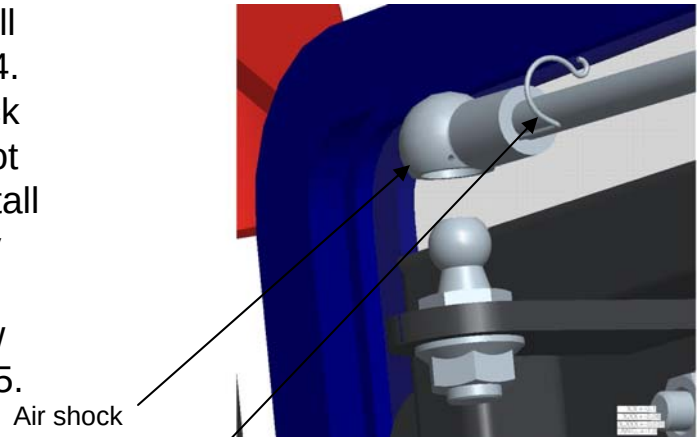
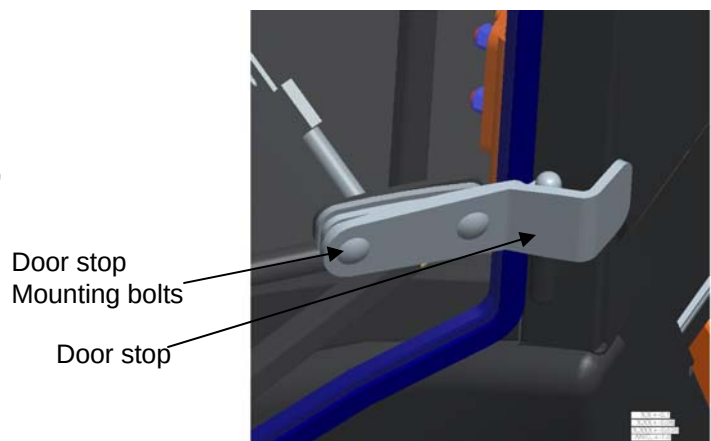

Figure 4.
Figure 5.
4. Install the door air shock onto ball stud in door as shown in Figure 4. Then install other end of air shock on to cab ball stud. NOTE: Do not over stress glass by trying to install air shock on to cab as glass may shatter. You may need to loosen door stop mounting bolts to allow door to open wider. See Figure 5.
5. After installing air shocks, install safety clips on both sides of the ball stud receivers, See Figure 4, to ensure that the air shocks do not fall off.